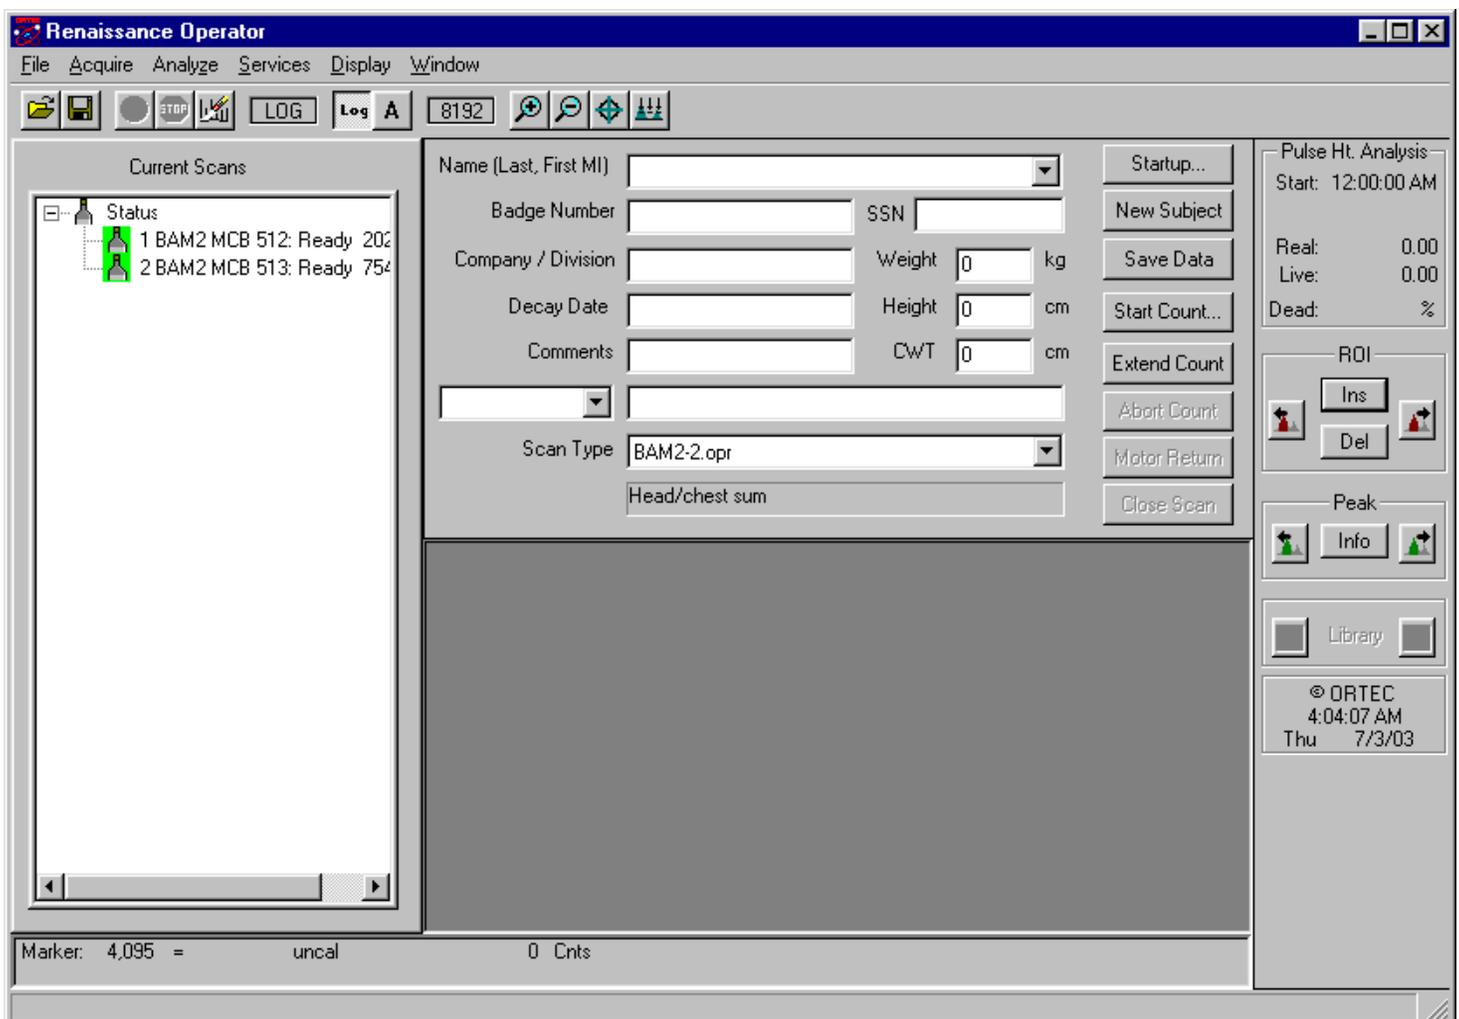

Figure 3. Renaissance Operator Screen After Login.
Figure 3 shows a typical Operator display on startup. In this example, the default **Scan Type** uses two Detectors, which are shown on the left in the **Current Scans** area. For a more detailed discussion of the user interface, see Chapter 3, Display Features.
- 1) Start Renaissance Operator and log in. The opening screen will look similar to Fig. 3. Refer as needed to Chapter 3 for more information on the screen features.
- 3) At the top center of the display, the *key field* to be entered (either **Name**, **Badge Number**, or **SSN**, as determined by the supervisor; see Section 2.2.4) will be indicated by a droplist button () on the right of the field. In Fig. 3, the **Name** field is the key field.